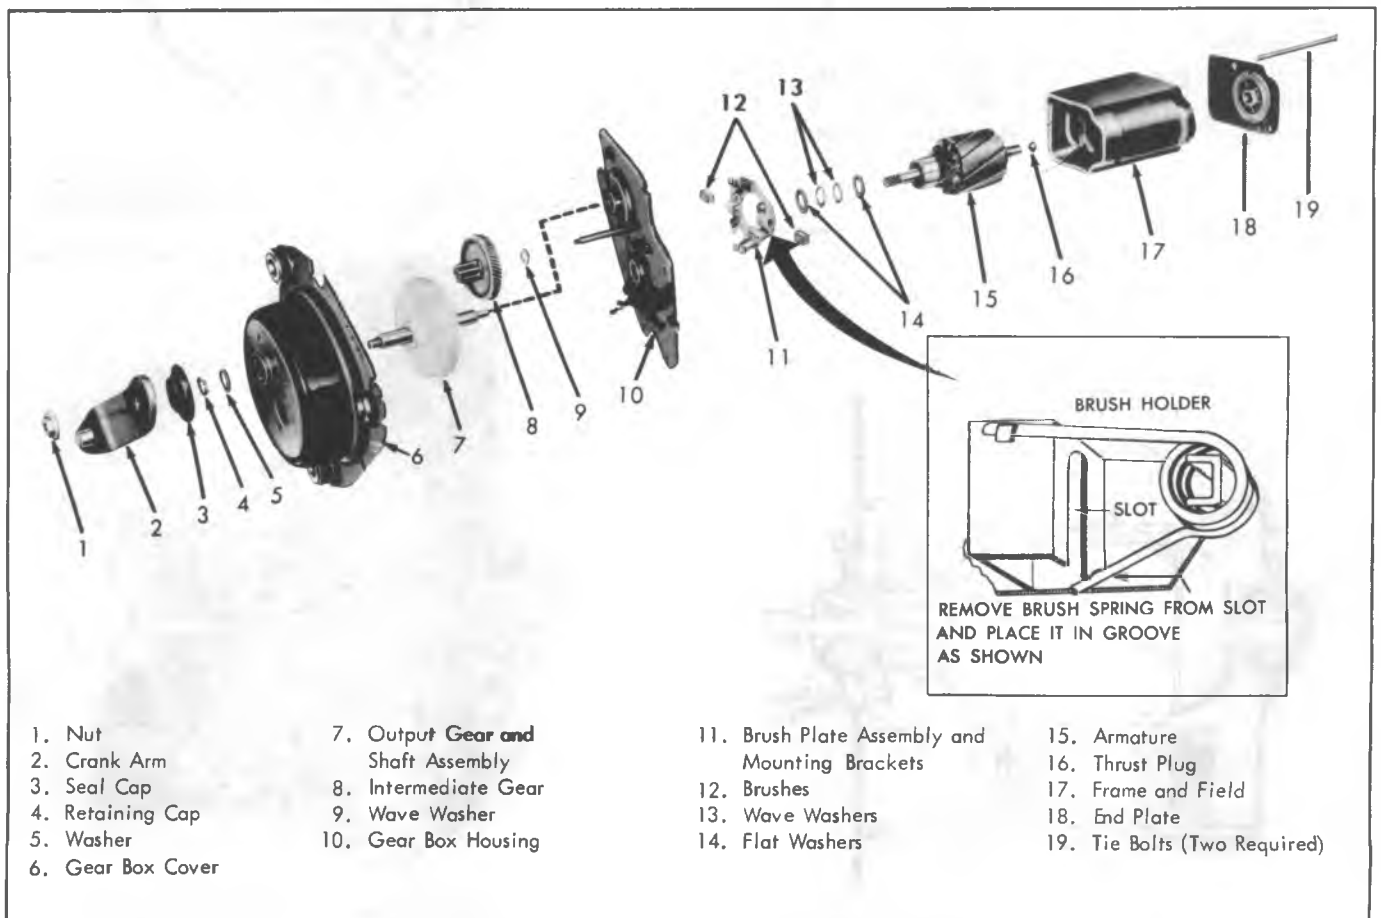

Fig. 8C-34--Wiper Motor and Gear Box Assembly
3. Remove brush spring tension (fig. 8C-34), slide armature and end plate from motor frame. Pull end plate from armature.
2. Place wiper in park position and install crank arm on output shaft, rotate crank so alignment marks line up with those on cover (fig. 8C-36).